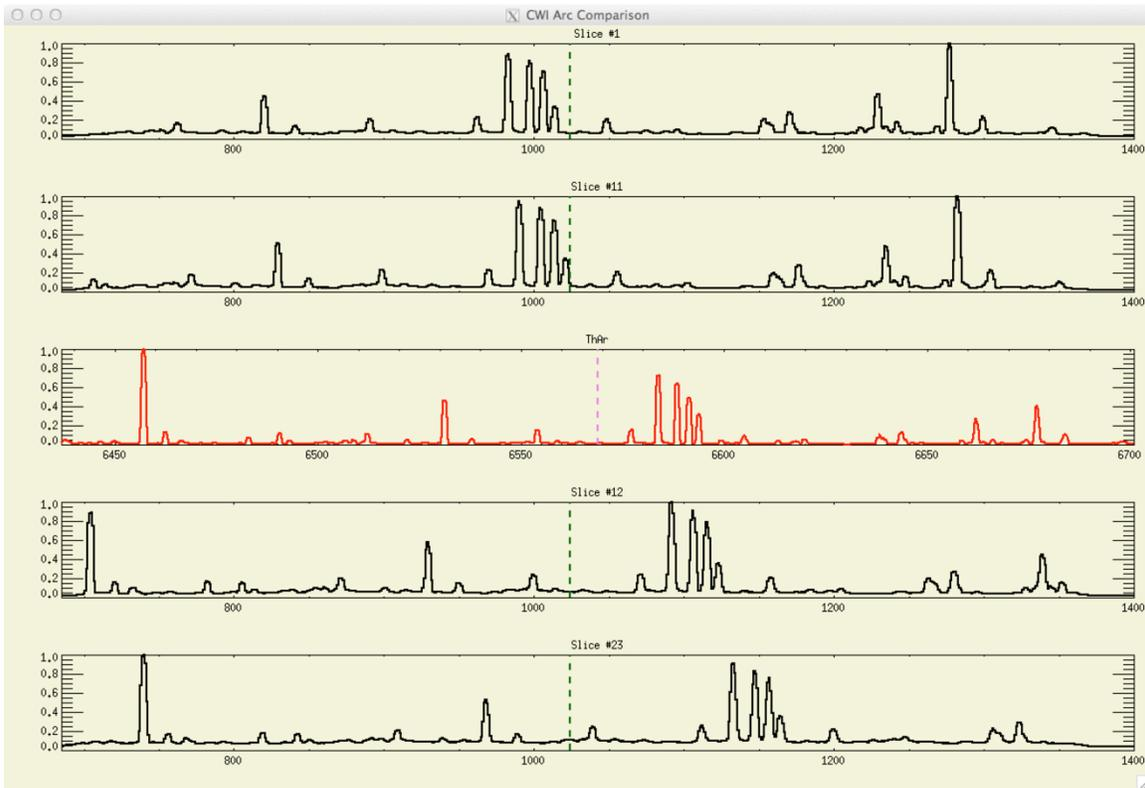

Figure 1. Output of cw\_i\_compare\_arc.
- A sample output of the procedure is shown in Figure 1.